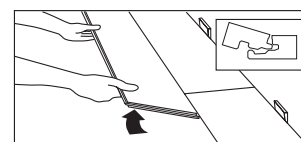

Figure 7
- Install the long end of the first board at an angle to the board in the previous row. Keep this board at its natural angle slightly raised off the subfloor (Fig. 7). Use a scrap piece of hardwood to support the row if needed.